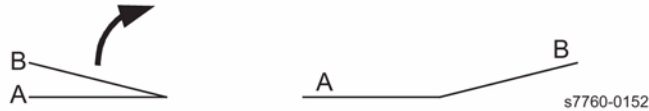

Figure 1 Staple Position
7. Measure A and B on both Booklet jobs and verify X1 against specification in Figure 1.
6. Check the output against specifications in Figure 1. Repeat step 5 until the Staple Position meets specification or customer request.